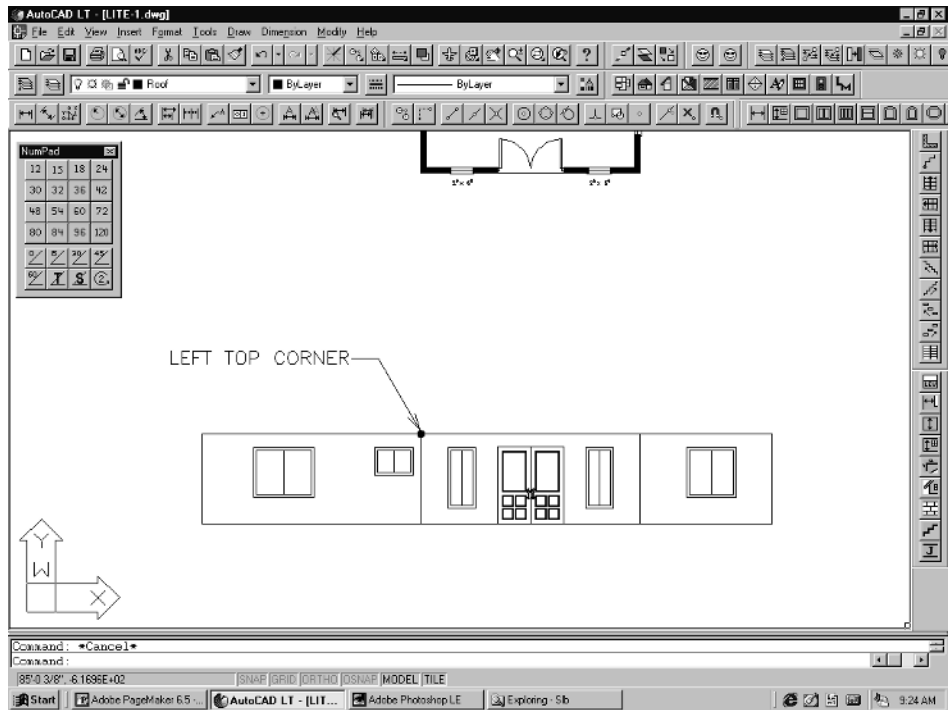

Figure 6-74
1. First, start with the roof over the room with the double doors. Pick the **Elevation Menu**. Select the **Left Hip** button. The first prompt will be for *Point: _endp of*. Pick the top left corner of this room, as in Figure 6-74.